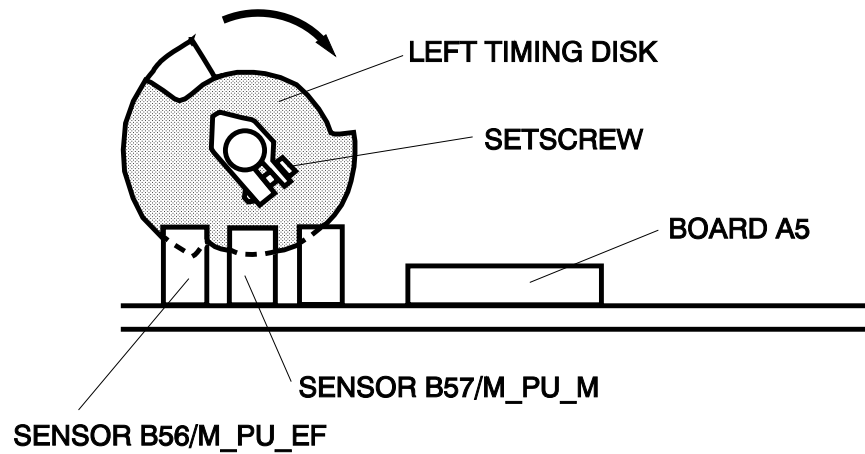

figure 36
28. Rotate the LEFT HAND TIMING DISK in the direction of the arrow (fig. 36) until the SENSOR B56/M_PU_EF is interrupted.